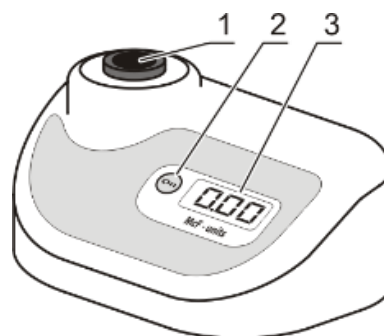

Figure 2. Front view
- Transparent standard. Display shows 0.00. Insert standard for 0.00 value into the socket (fig. 2/1) of the unit. If the standard for 0.00 value is not available, fill the tube (of the kind that is used for operations) with distilled water. Use the tube as the 0.00 value standard. Press **Install** button to save empty socket value. Display shows next required calibration value.
2.6.4. Common calibration rules. Display shows indication of necessary calibration value. Insert the necessary standard into the socket (fig. 2/1) of the unit and press the **Install** button to save the value for current standard.